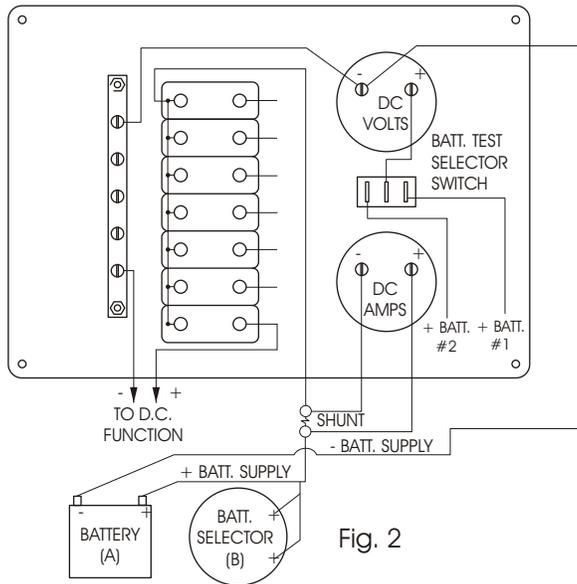

Fig. 2
Once the panel is installed, connect the branch circuits as shown in Fig. 2. After branch circuits have been checked, connect panel to power supply as shown in Fig. 2 either directly to battery or through a battery selector switch. Refer to Fig. 3 to determine proper wire size. All battery systems must be protected by an over-current protection device located in accordance with ABYC recommendations.
**D/C ammeters must be used in conjunction with a shunt (For 50 amp: 50 mv, part #421205 and for 100 amp: 50 mv, part #421210, both available from Sea-Dog Line). Mount the shunt on the bulkhead near the back of the cutout for the panel, and wire per Fig. 2 using #14 gauge wire.**